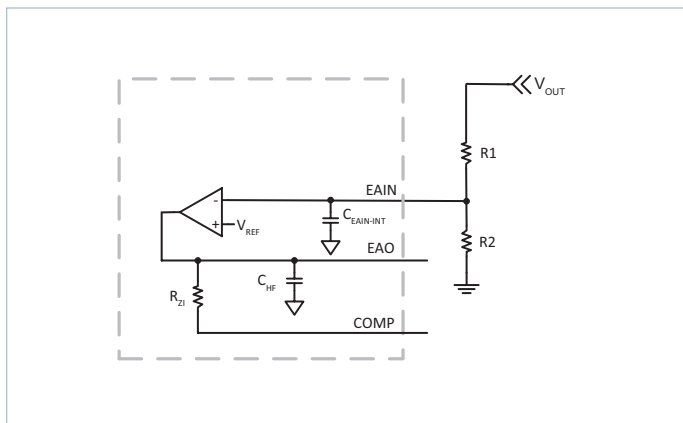

Figure 36 — External resistor divider network
The PI3527-65 Buck Regulator utilizes V_{REF} , an internal reference for regulating the output voltage. The output voltage setting is accomplished using external resistors as shown in Figure 36. Select R2 to be at or around 1k Ω for best noise immunity. Use Equations (2) and (3) to determine the proper value based on the desired output voltage.